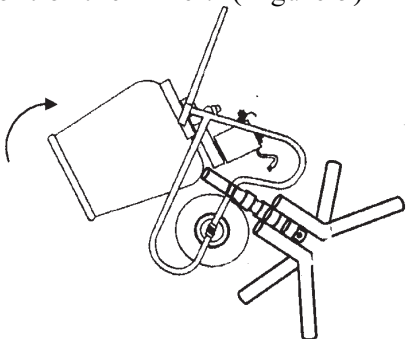

**Figure 4 - Insert Pedestal Stand Assembly through Pivot Mount Plate**
3. Insert pivot tube of pedestal stand assembly through pivot mount and tighten thumbscrew. (Figure 4)